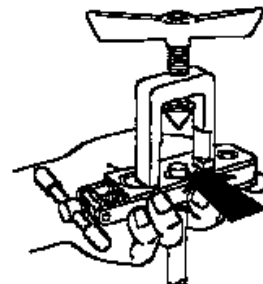

Fig. 2
5. For normal size flares, tubing should be placed so that it is approximately 5/16" above the die block. Use the bottom of the yoke leg as a height gauge. (See Fig. 2.)